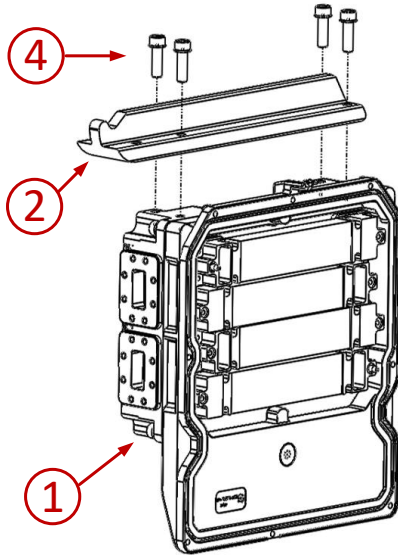

Figure 47: Left Rail Configuration
- With the nose of the rail protruding to the left when facing the inside of the OCU (*Figure 47*).